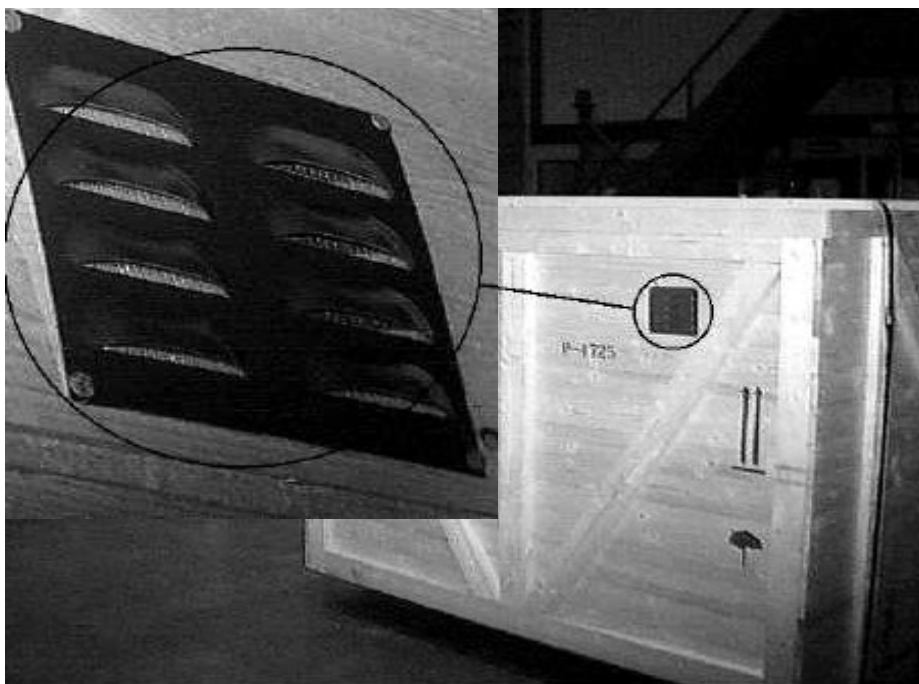

Figure 2-2 Ventilation holes
- To execute small openings for ventilation when the machine is stored in a wood crate and prevent water, insects and parasites from entering the crate (see Figure 2-2 Ventilation holes).